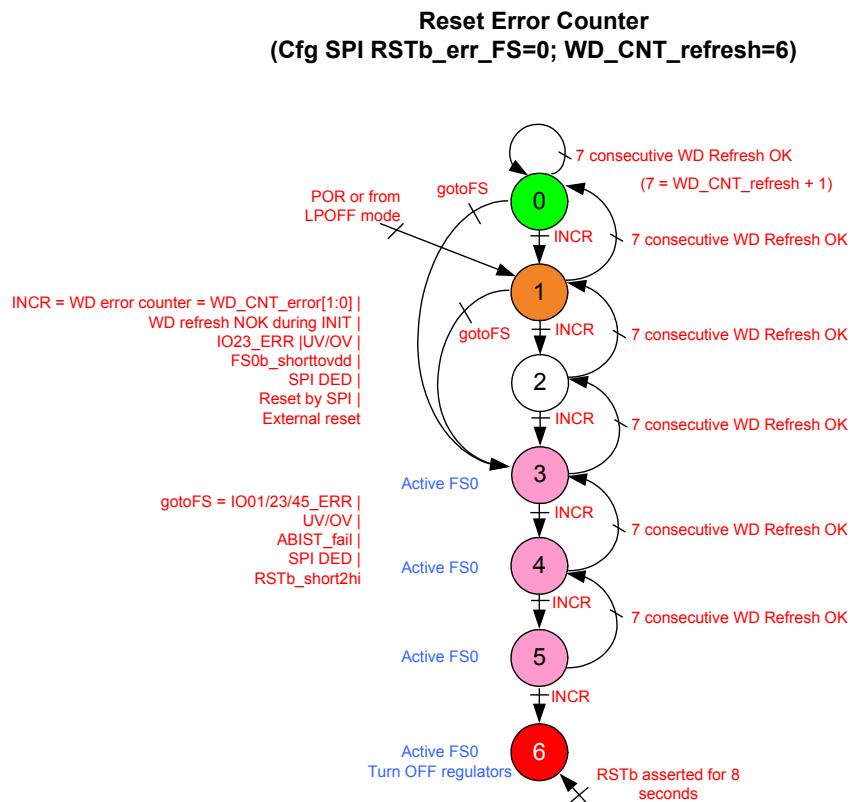

Figure 16. RSTB Error Counter (RSTB\_err\_FS = 0)
- RSTB\_err\_FS = 0 / Intermediate = 3; Final = 6 (Figure 16). When reset error counter reaches 6, the device goes into deep reset and fails.